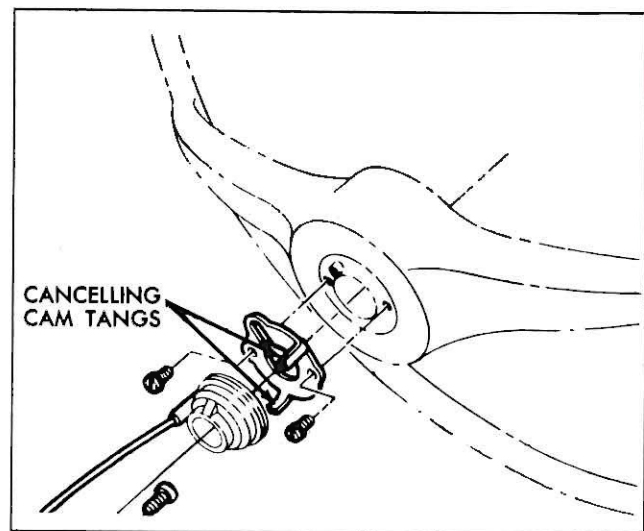

Fig. 10—Cancelling Cam Tangs
1. Remove the steering wheel and check the cancelling cam tangs attached to the bottom side of the steering wheel. They should be at right angles to the mounting surface. If not, bend accordingly (fig. 10).